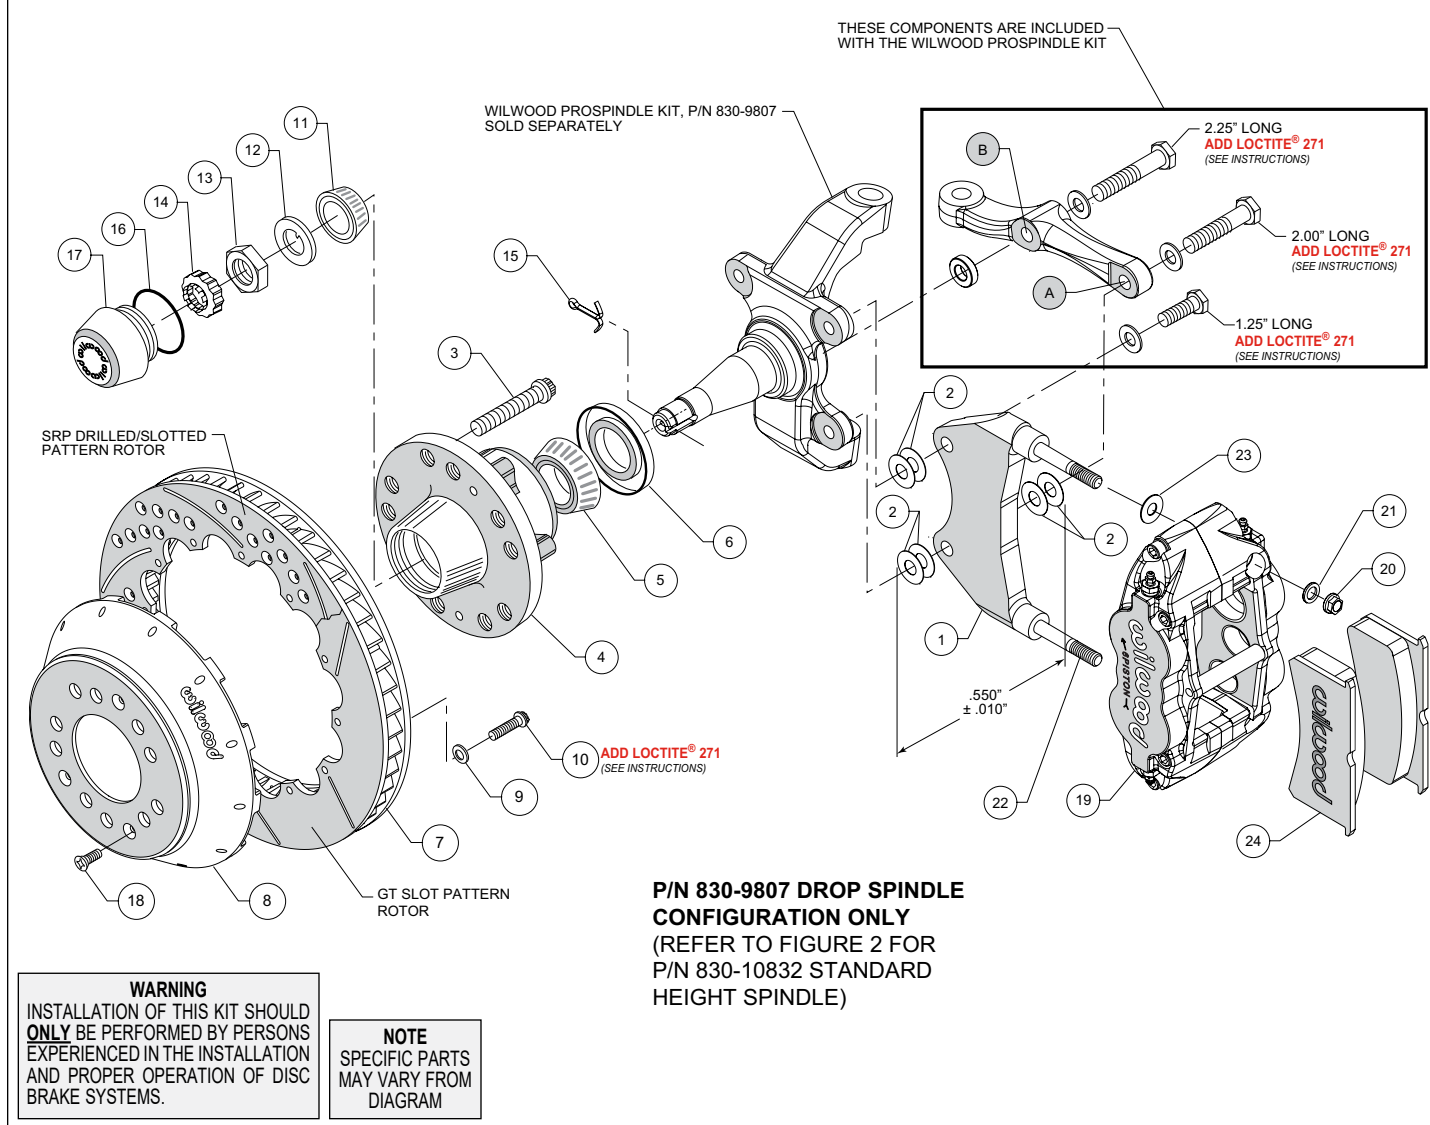
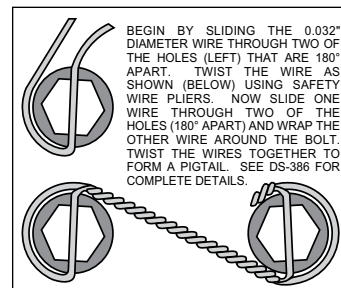

Figure 1. Installation Configuration For Drop Spindle, P/N 830-9807
Figure 4. Safety Wire Diagram
Assembly Instructions (numbers in parenthesis refer to the parts list and Figures 1 or 2 on the preceding pages):
- NOTE:** Each Wilwood ProSpindle kit includes bolts, washers, and a spacer to mount the steering arm and caliper bracket. The various bolts are identified by length in the following instructions and in Figures 1 and 2.
- Orient the bracket as shown in Figure 1 and Photo 1. Install at top spindle hole using 1.25" long bolt and .06" thick washer (from ProSpindle kit), and two .016" thick shims (2) between the bracket and spindle, Figure 1.
- Orient the steering arm, and identify the hole marked 'A', as shown in Figure 1. Install at bottom spindle hole using 2.00" long bolt and .06" thick washer (from ProSpindle kit), two .016" thick shims (2) between the bracket and steering arm, and another two .016" thick shims (2) between the bracket and spindle, Figure 1. The bracket is located between the steering arm and spindle. **NOTE:** The bracket and shim washers must add up to a total thickness of .550" $\pm$.010", Figure 1.
- Finish attaching the steering arm through the hole marked 'B', as shown in Figure 1. Install using 2.25" long bolt, .06" thick washer, and .25" thick spacer (all from ProSpindle kit), Figure 1.
- Pack the large inner bearing cone (5) with high temperature disc brake bearing grease (available from your local auto parts store) and install into the backside of the hub (4), Photo 4.
- Install the grease seal (6) by pressing into the backside of the hub (4), Photo 4.
- Orient the rotor (7) and the hat (8) as shown in Figures 1 or 2, and Photo 5. Attach rotor to hat using bolts (10) and washers (9). Apply red *Loctite*® 271 to the bolt threads and torque to 155 **in-lb** using a criss-cross pattern. For an added measure of security, the bolts may be safety wired using standard 0.032 inch diameter stainless steel safety wire as shown in Figure 4. Refer to Wilwood's data sheet DS-386 (available at www.wilwood.com/Pdf/DataSheets/ds386.pdf) for complete safety wire installation instructions.
- Pack the small outer bearing cone (11) with high temperature disc brake bearing grease and install into hub (4). Slide the hub assembly onto the spindle. Secure using spindle washer (12) and spindle nut (13), Photo 6. Bearing adjustment: Tighten the nut while turning the hub. When there is a slight bind on the bearings, they are seated correctly. Back the nut off about 1/6 to 1/4 of a turn, or sufficiently to allow .001" to .007" end play. **WARNING:** Failure to back off adjusting nut could cause bearing to run hot and be damaged, which could cause the wheel to lock or come off. Install spindle nut retainer (14) and cotter pin (15).
- Screw dust cap (17) into hub (4), Photo 7. Friction created by the o-ring (16) on the dust cap keeps it from unscrewing.
- Slide the hat/rotor assembly (7/8) onto the hub (4) taking care to align the small countersunk holes in the hat with the small threaded holes in the hub. **NOTE:** The hat must fit flush against the hub face or excessive rotor run out may result. Install three flat head screws (18) through the small holes in the hat (8), Photo 7, and torque to 85 **in-lb**.
- NOTE:** This kit contains distinct right and left hand calipers that must be mounted in a specific direction, as described below. Initially place one .035" thick shim (23) on each stud (22) as shown in Figure 1 or 2, and Photo 8. Mount the caliper (19) onto the bracket (1) using lock nuts (20) and washers (21), Figure 1 or 2. Ensure that the caliper is mounted so that the largest pistons are at the rotor exit end of the caliper, in relation to the direction of rotor rotation. Temporarily tighten the lock nuts and view the rotor through the top opening of the caliper. The rotor should be centered in the caliper, Photo 9. If not, proceed as follows:
- For the lower bracket mount bolt, if a shim was added between the bracket and spindle, then a shim must be removed between the steering arm and bracket, such that the total thickness of bracket and shims remain equal to $.550 \pm .010$ ", Figure 1.